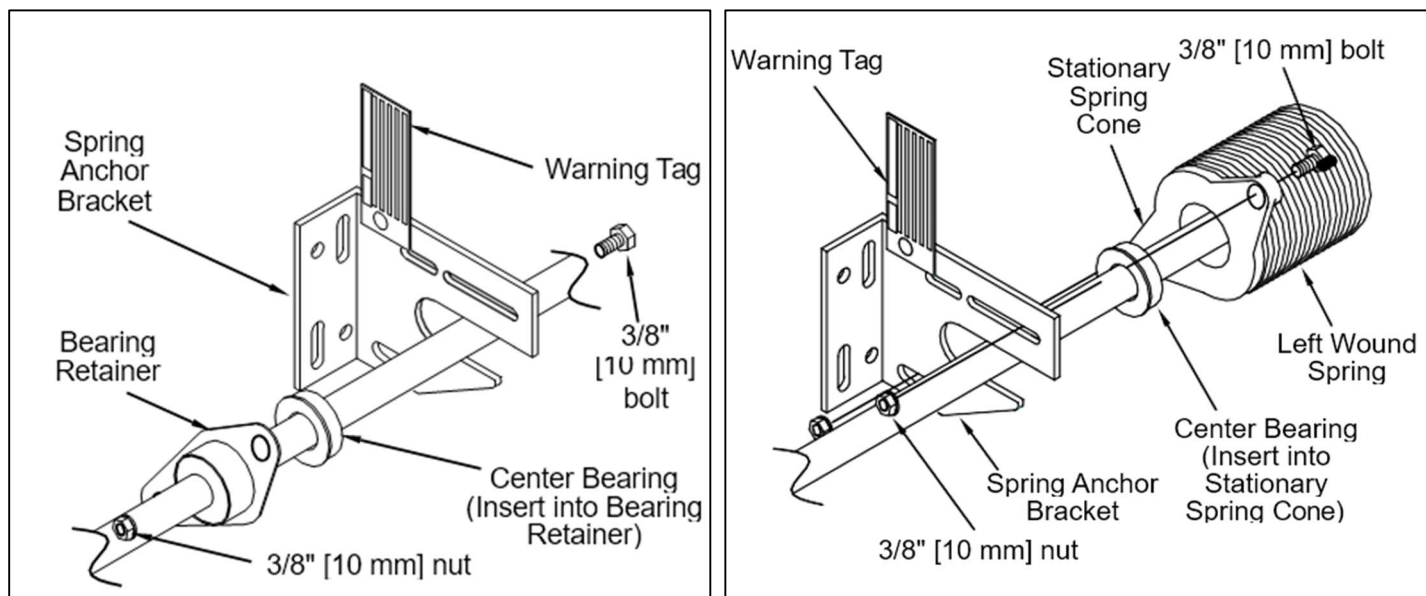

Figure 17 – SPRING ANCHOR BEARING ASSEMBLY
42. Loosen all set screws on winding cones, couplers, and spools. In this order, slide the center bearing, spring (with cones), spool, spool-bearing spacer, shaft bearing, and sprocket onto shaft as seen in **Figures 17 & 18**.